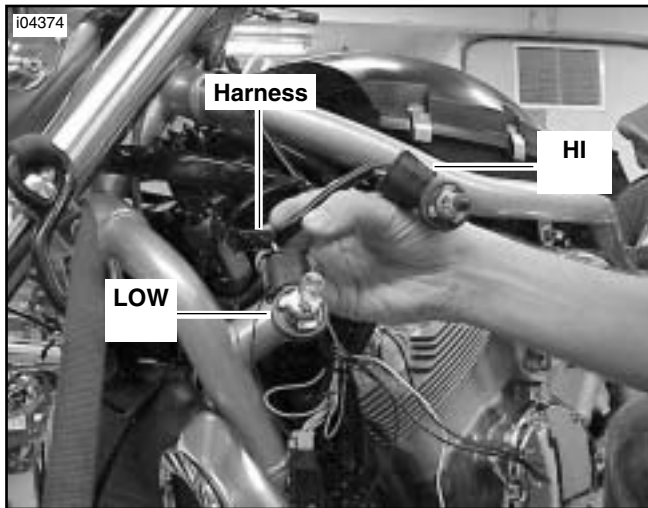

Figure 7. HI and LOW Beam Bulb Assemblies (VRSC Models)
13. **VRSC models:** See Figure 7. Route the underterminated wire from the switch toward the HI and LOW beam harness.